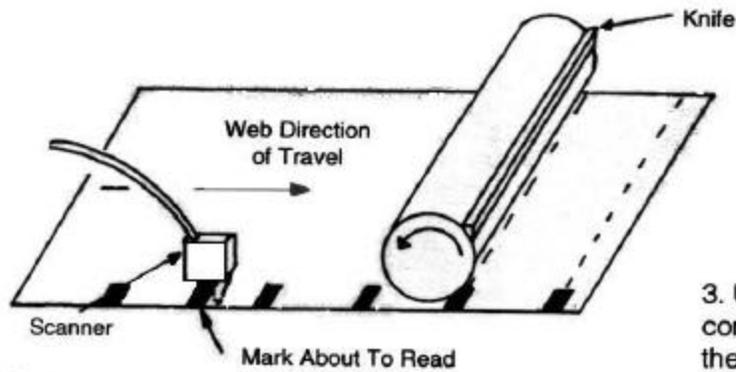

FIG. 2
8. Using the MACHINE JOG, jog the machine feed. Move the web until the leading edge of the next register mark is under the scanner. (See Fig. 2) pp.18